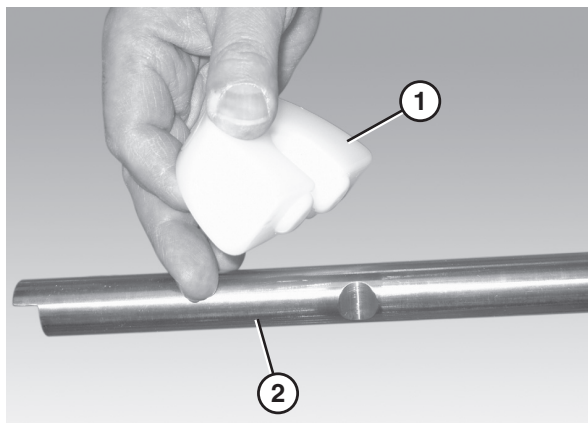

Figure 49
1. Attach the chain return shoes (Figure 49, item 1) to the return shaft (Figure 49, item 2).